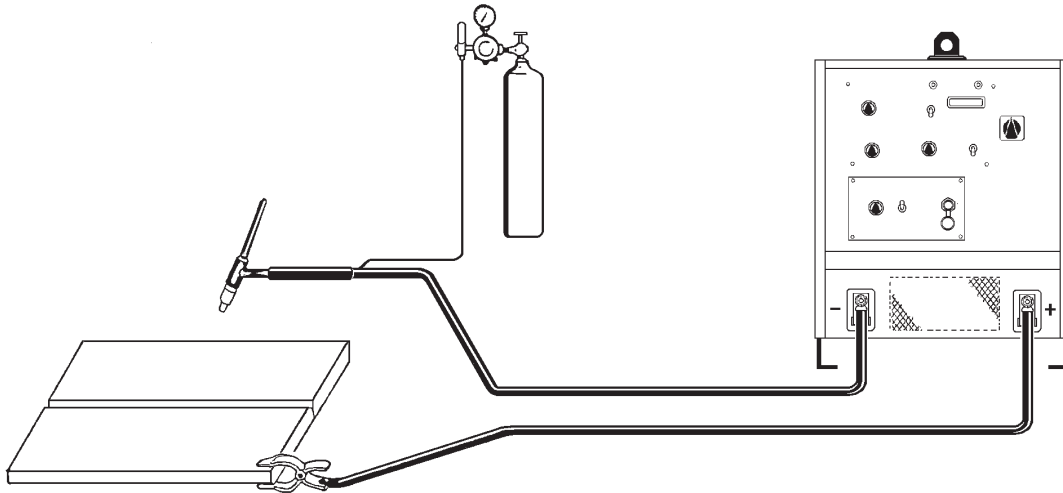

Figure 5-2
5. Set the ARC FORCE control to the desired arc force setting. Full clockwise is maximum arc force. The higher the arc force setting the more drive or dig the arc will have. Maximum arc force will increase the short circuit current considerably higher than the normal welding current. Minimum arc force will still cause the short circuit current to increase, (See Figure 5-2)
1. Connect the work lead and torch lead to the power source. Figure 5-2 shows typical connections for DCEN (straight polarity). This is the normal connection for TIG welding.